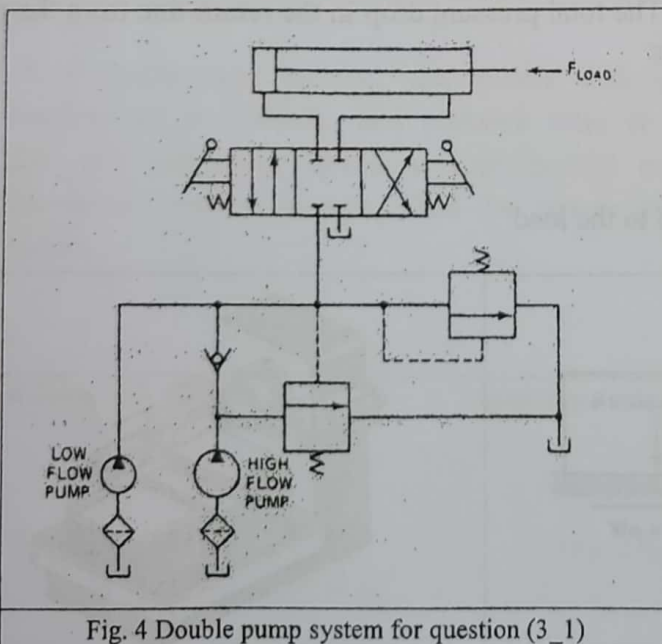

Fig. 4 Double pump system for question (3_1)
1. For the double pump system shown in Fig. 4 for the application of a sheet metal punch press, what should be the pressure settings of the unloading valve and pressure relief valve under the following conditions: